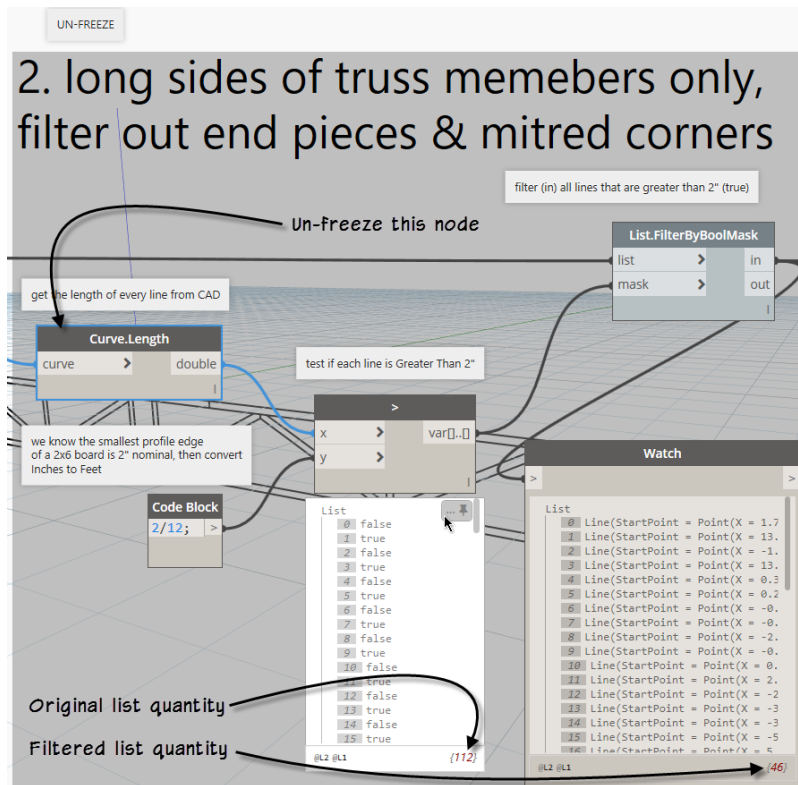

FIGURE 81
10. Run the graph. Study the results in the preview bubble and **Watch** nodes (see Figure 81).